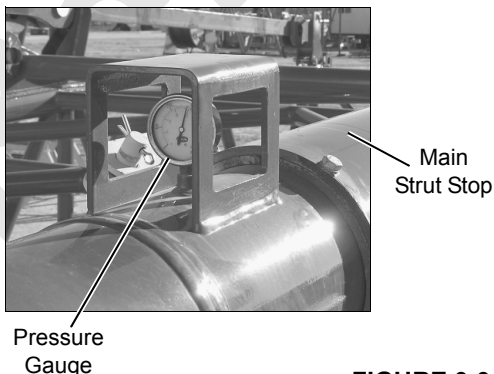

FIGURE 3-9
7. Before raising boom and jib, verify that pressure in main strut stop cylinders (Figure 3-9) is at the proper setting. For detailed instructions, see Section 4 of this manual. If pressure is not within specified range, contact Manitowoc Service Department for assistance.